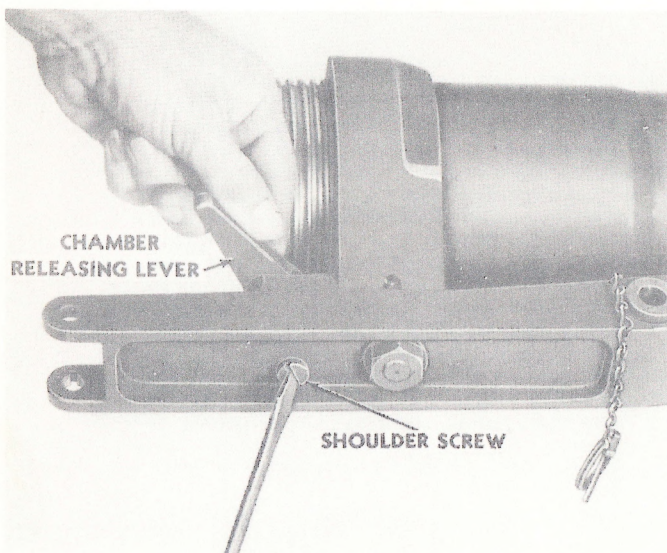

Fig. 21. Removing chamber releasing lever by unscrewing shoulder screw.
b. Chamber releasing lever. To remove chamber releasing lever, unscrew shoulder screw on under side of mounting bracket (fig. 21), using screw driver of combination tool, and lift off lever. To assemble, reverse procedure for disassembly.